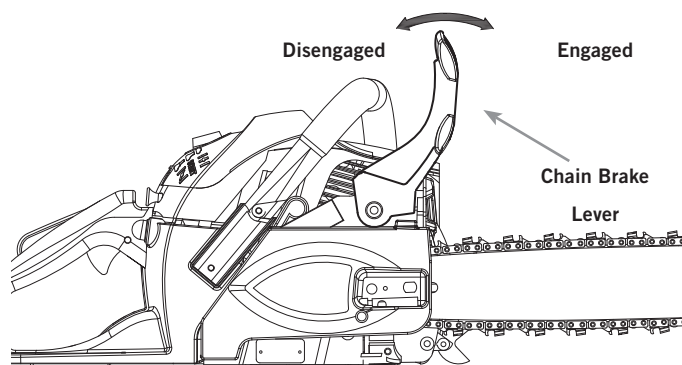

Fig. 1
2. Make sure the chain brake lever is pulled back in the disengaged position (Fig. 1).
4. While the unit is running, squeeze the throttle control to 1/3 throttle and then engage the chain brake by pushing the chain brake lever forward with the left hand (Fig. 1). The chain should stop moving abruptly. **IF...If the chain stops moving, the chain brake is working correctly.**